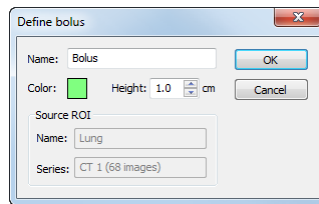

Figure 195 – Define bolus dialog
3. The **Define bolus** dialog (see Figure 195) will be opened, where you can: